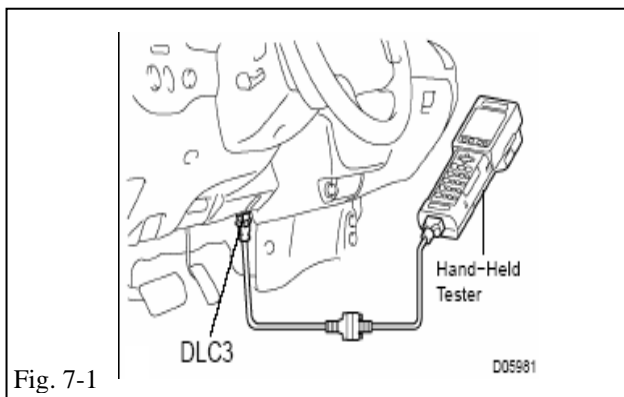

Fig. 7-1
- (b) Connect the hand-held tester to DLC3. (Fig. 7-1)